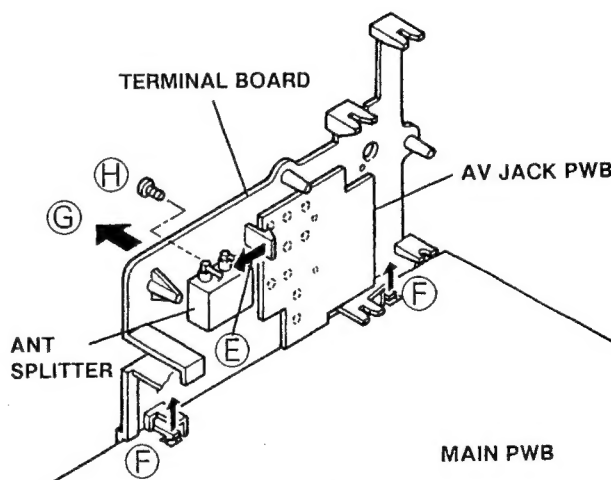

Fig.1
2. After removing the claw marked (E) from the AV JACK PWB in the direction of arrow mark as shown in Fig.1, remove the 2 claws marked (F) in the direction of arrow mark, then take off the TERMINAL BOARD in the direction of arrow marked (G).
1. Remove a screw marked (H) as shown Fig.1.